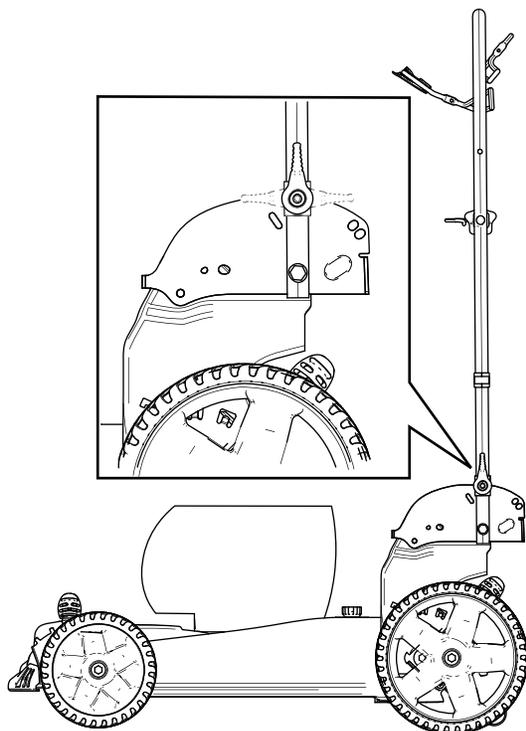

Figure 20
4. Fold the handle forward either to the vertical position or the fully forward position as shown in Figure 20.